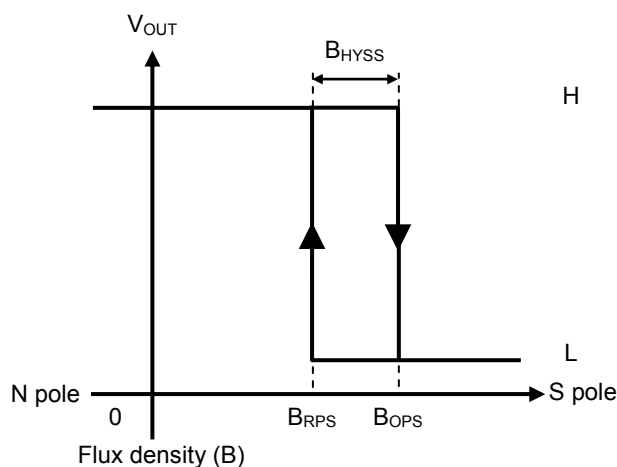

**Figure 16**
**Figure 16** shows the relationship between the magnetic flux density and  $V_{OUT}$ .